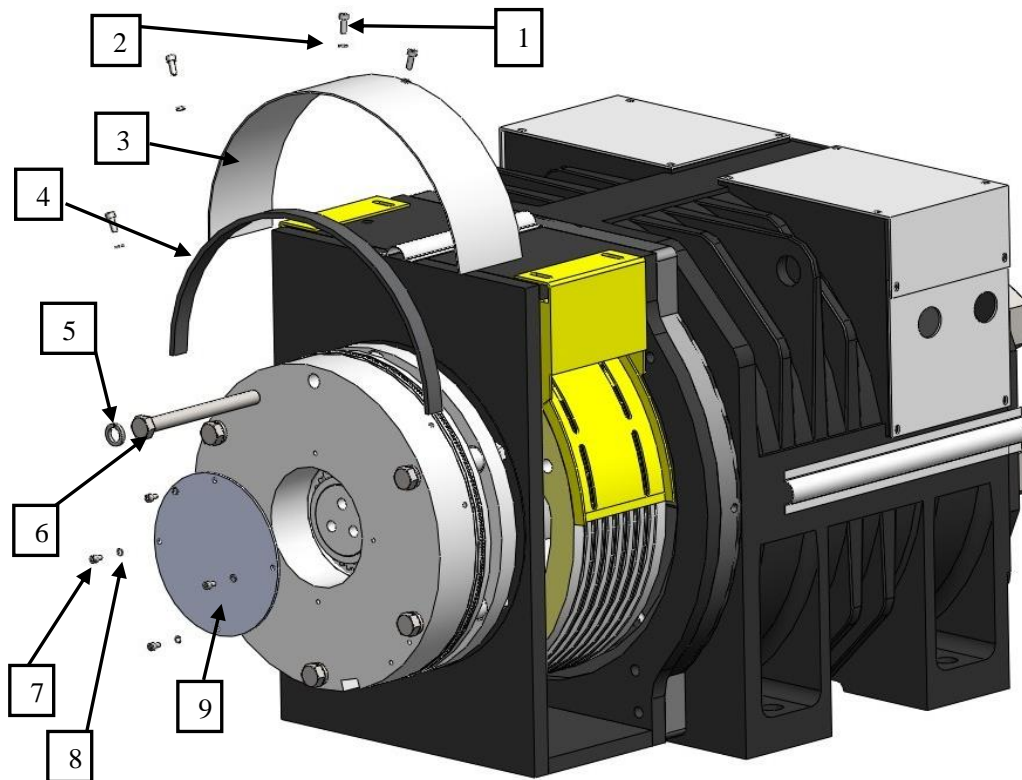

Figure 33: Emergency Brake Cover Parts
2. Remove the screws M5x12 and washer⁵ (4 pieces) with hex wrench (4mm), and remove the 4 screws M6x16 and lock washer⁶ (4 pieces) with hex wrench (5mm), then remove the cover, dustproof ring and rubber ring. See Figure 33 and Table 2.